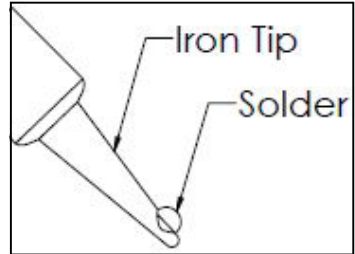

Figure 2: Solder on Tip of Iron
1. Touch the solder to the tip of the iron until a ball of melted solder forms on the tip, as shown in Figure 2.